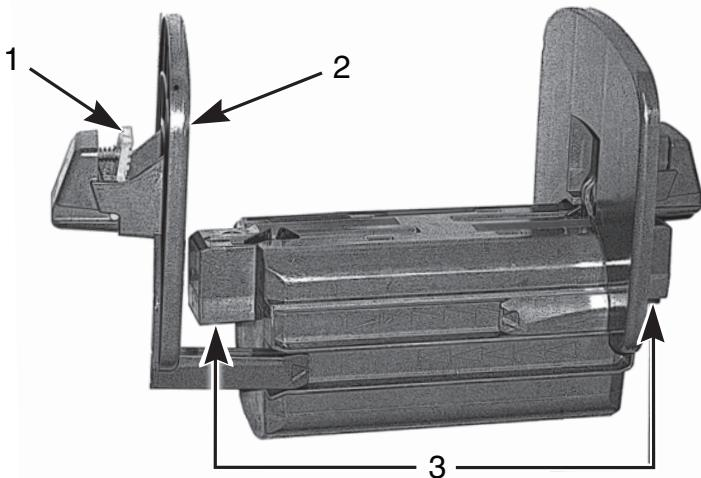

Figure 6, Material Supply Holder
1. Remove the material supply holder (**Figure 6**) from the printer by lifting it up and out of the frame.
There are sensors located under the side tabs (**Figure 6, 3**) on both sides of the material supply holder. Be careful not to damage these sensors or the label printer will be unable to read the material identification tag on the labels.
2. Press and hold the green tab (**Figure 6, 1**) on the material supply holder and slide the end piece (**Figure 6, 2**) outward.